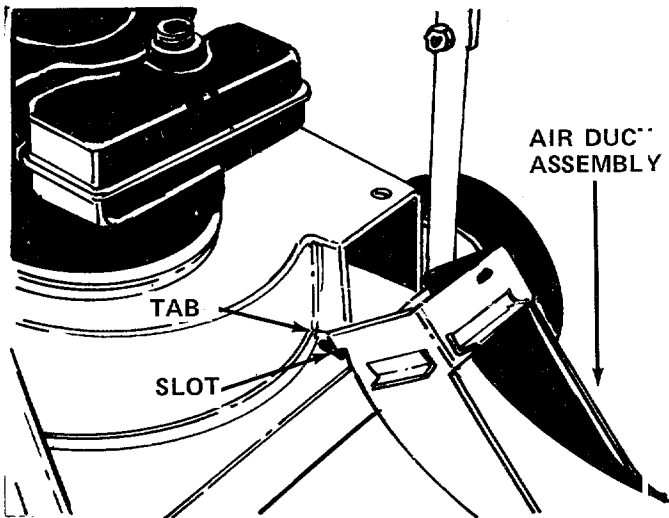

FIGURE 8
- Place the tabs on the air duct assembly (D) into the slots in the frame as shown in figure 8. Raise the air duct into position.